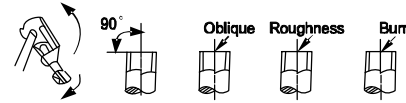

Fig. 8 – Cut the Pipe
2. Cut the pipe, with a pipe cutter, at 90 degrees (see Fig. 8).